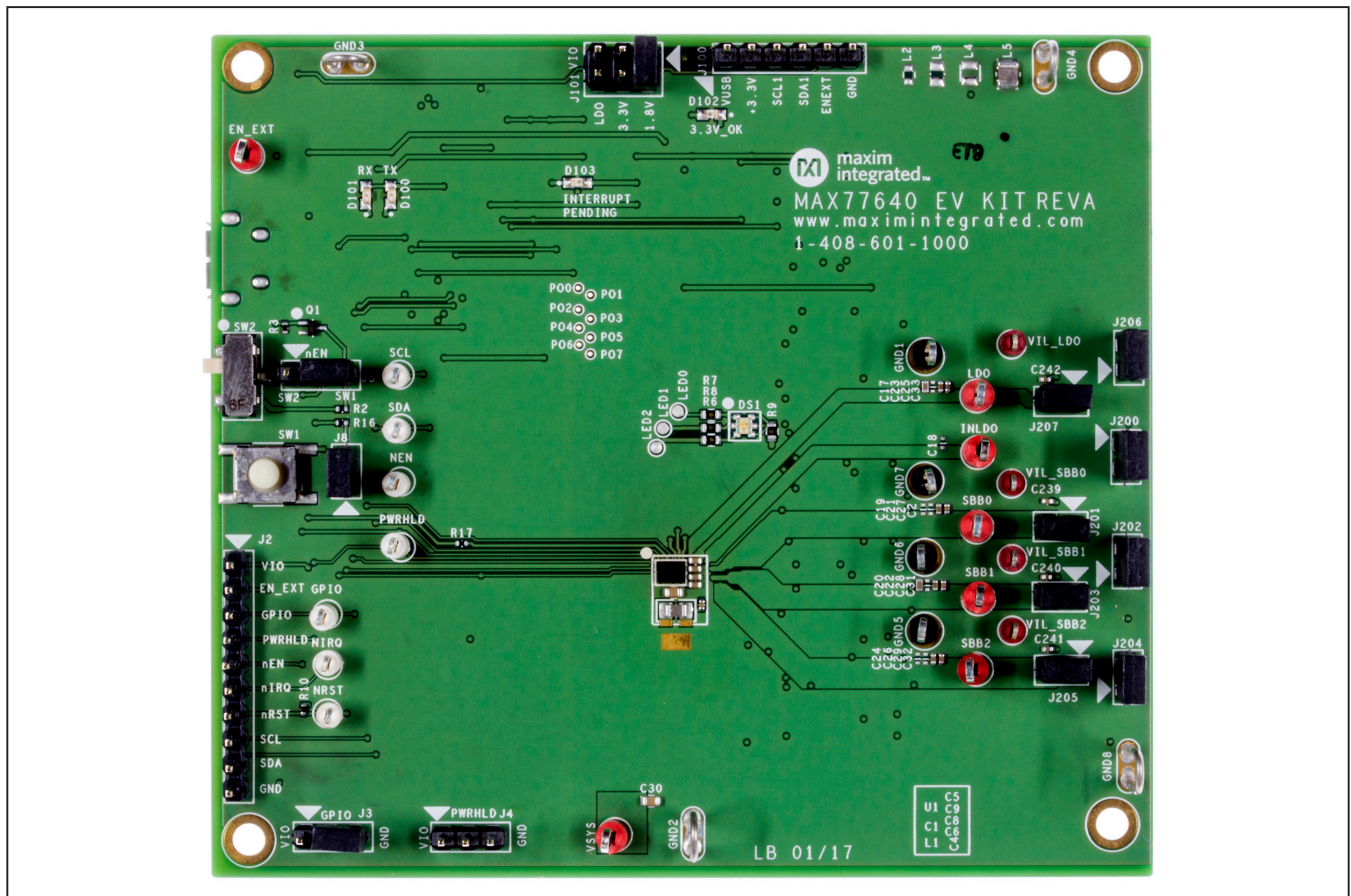

Figure 1. MAX77640/MAX77641 EV Kit Photo
- 2) Make sure shunts are installed on jumpers per Figure 1.